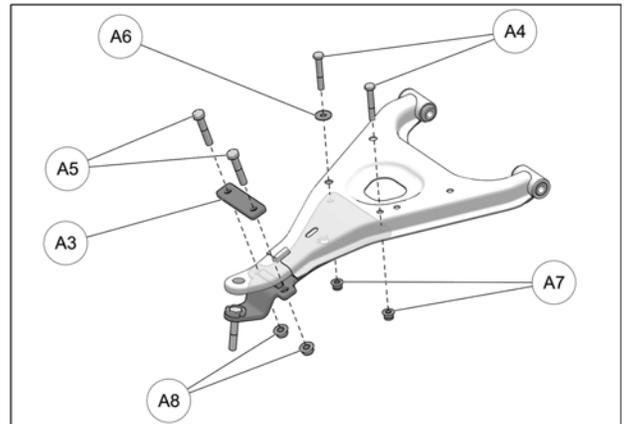

Fig. 26
15. Position bracket cover (A3) over suspension arm and align holes in cover and bottom part. Insert M10x55mm bolts (A5) through top and secure the two parts together with M10 nuts (A8) provided. Insert M8x55mm bolts (A4) through top, with washer (A6) on bolt that faces rear of vehicle, and secure the two parts together with M8 nuts (A7) provided. Tighten M10 nuts to 50 N•m [37 lb•ft] and M8 nuts to 25 N•m [18 lb•ft] of torque. Fig. 26